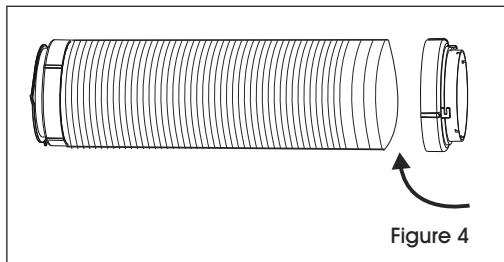

Figure 4
3. Extend the other side of the hose and screw it to adapter B. (See Figure 4)